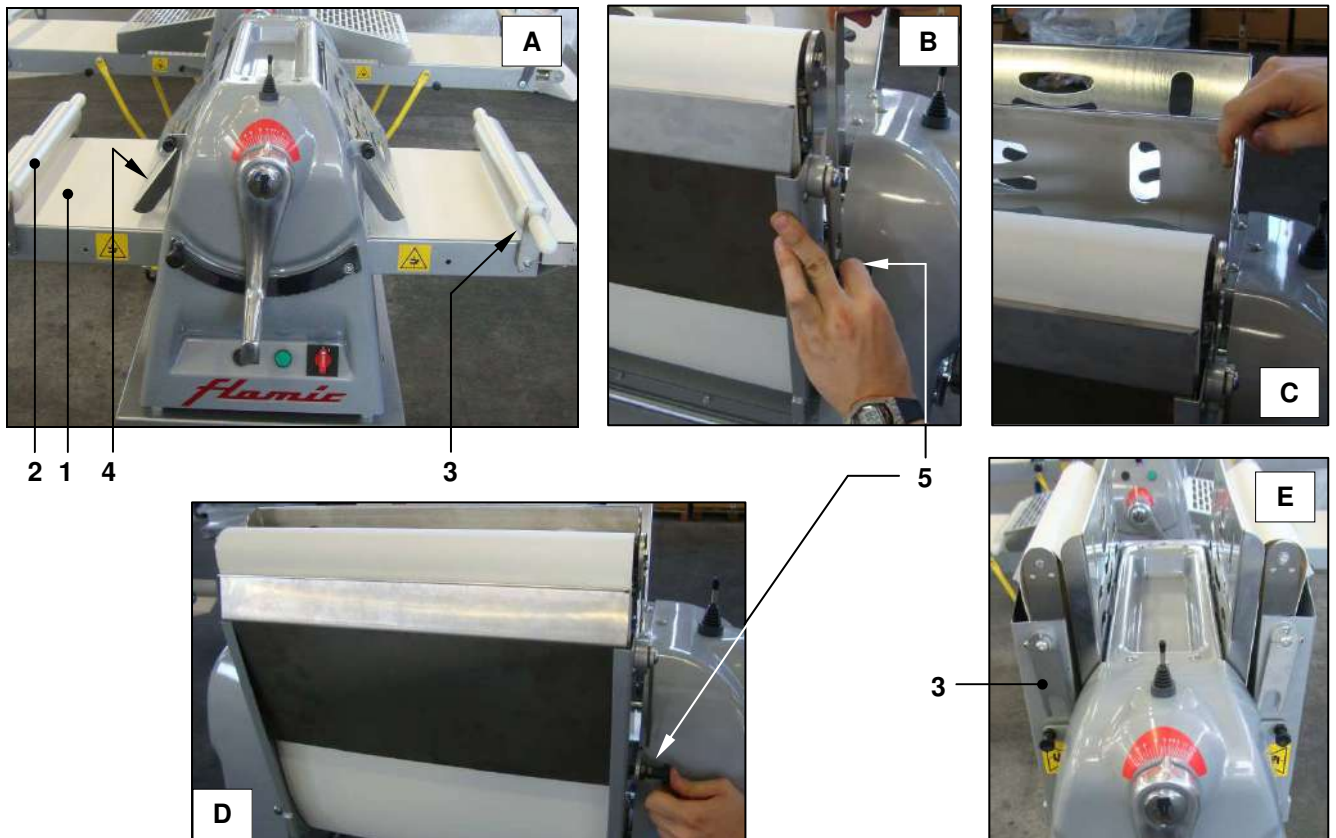

Figure 16 - Raising/lowering the benches (mod. SF450)
With reference to Figure 16, to move a bench ref. 1 from the position shown in photo A to the position shown in photo E:
- remove any rolling pins ref. 2 there may be and lower the relative supports ref. 3
- raise the guard ref. 4 completely (see section 3.5.1)
- raise the bench ref.1 keeping the pawl ref. 5 pulled out and move the guard ref. 4 (photo B - C) as far back as possible.
- insert the pawl ref. 5 into the corresponding hole in the side of the bench (photo D).